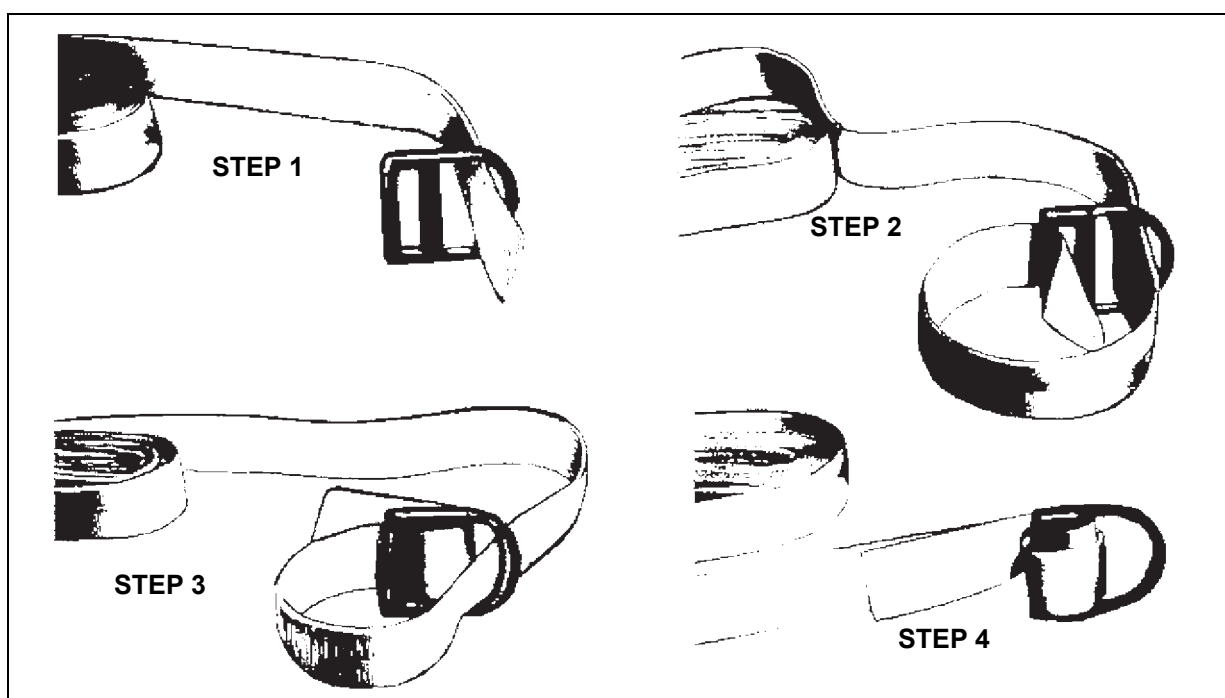

Figure 8-36. Tiedown Strap Routed Through the D-ring
- **15-Foot Tiedown Strap.** The 15-foot tiedown strap is made of 1 3/4-inch wide Type V low-elongation polyester textile webbing with a D-ring at one end. The cargo tiedown straps are used with heavy duty D-rings and load binders to secure bulk or palletized cargo making up a single load or for lashing cargo to a vehicle. The procedure for using the heavy duty D-ring (figure 8-36) is outlined in the following steps: